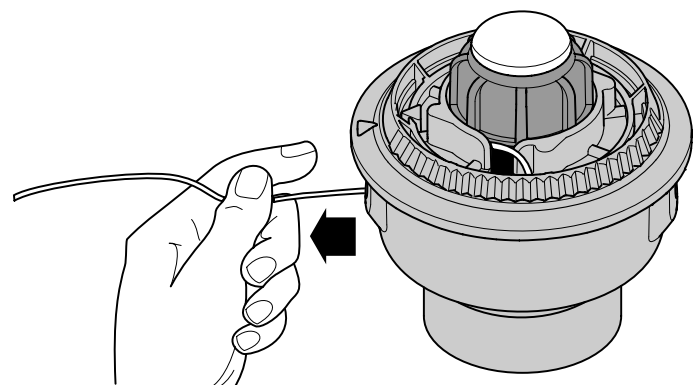

Fig. 11
6. Pull the line from the outer spool until the line is tight against the inner reel (Fig. 11).